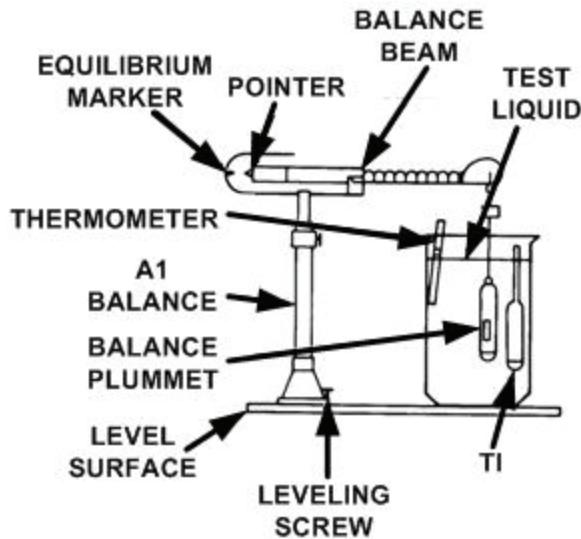

Figure 1. Specific gravity - equipment setup.
- d. Assemble Westphal balance on a smooth level surface, as shown in figure 1.